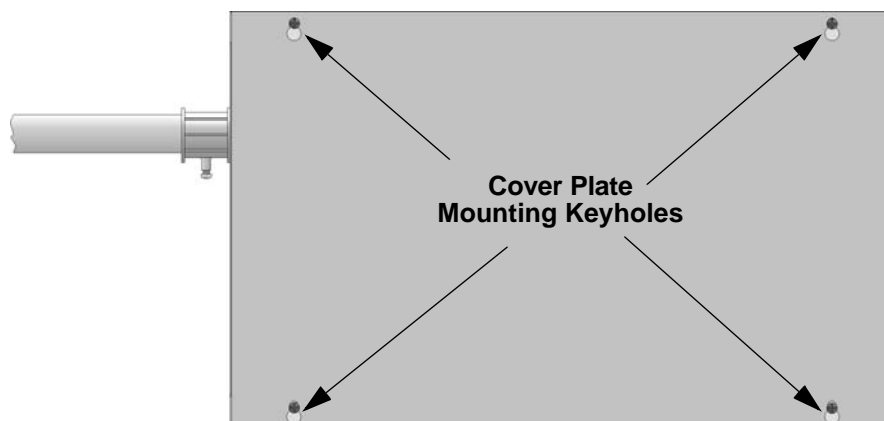

Figure 4-6 Cover Plate Mounting Keyholes and Cover Mounting Screws Alignment
See Figure 4-6.
7. Slide the cover into place and tighten the cover mounting screws. See Figure 4-6.